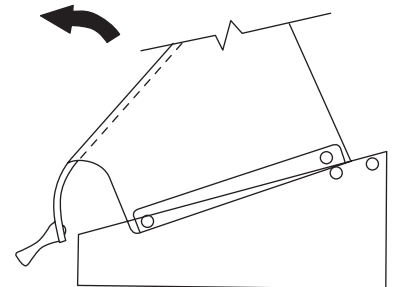

Figure 2. Optional Food Shield Components
NOTE: Early style corrals do not have weldnuts on inside of side covers. When installing the food shield, jamnuts (5, figure 2) must be used.
2. Assemble the hardware to the left and right cover panels as shown in Figure 2.